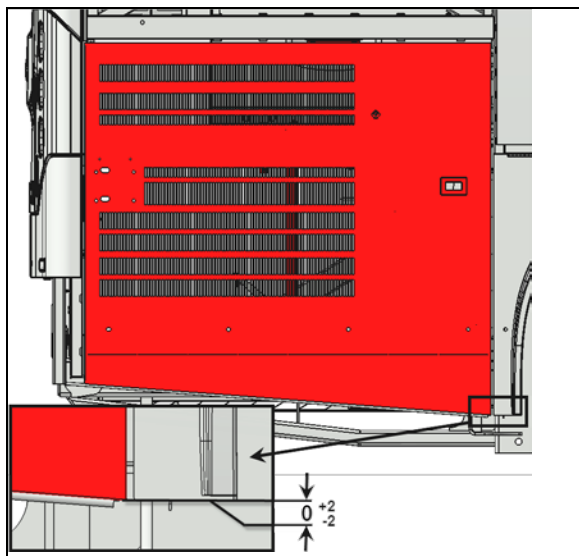

FIGURE 46
3. Compare the lower edge of the door level with the lower edge of the rear fender. The door should be flush with the fender (FIGURE 46).